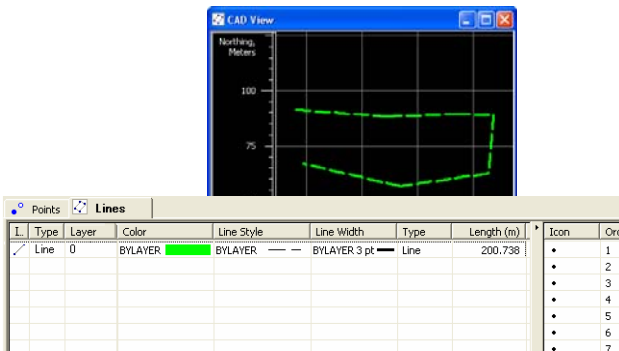

Figure 5-33. Plotting Line in the Cad View
- Click the **Add Line** button on the Toolbar and click any area within the CAD view. Repeat this step as needed (Figure 5-33). Vertexes of the line will be appended to the line. These vertexes have no name, and the *Points* tab does not display coordinates for them. The right panel of the *Lines* tab displays only the icon and order for the vertexes (Figure 5-33).